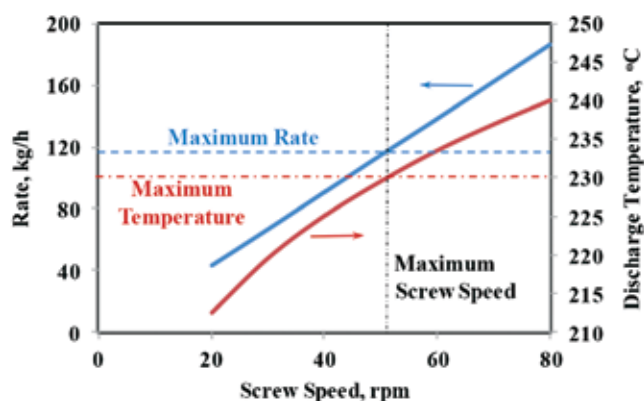

Figure 1. Rate and discharge temperature for a 100 mm diameter screw with a metering channel depth of 5.5 mm.
Most processors operate their lines at the maximum extrudate temperature that is acceptable for the downstream film (or pipe) process. For example, a processor would increase the screw speed and rate until the extrudate temperature increases to a point where the downstream section of the process is unstable. For these cases, the discharge temperature and rate increase with increasing screw speed as shown in Figure 1. For a blown film line, the bubble would become unstable at discharge temperatures exceeding about 230°C. For a 100 mm diameter screw with a metering channel depth of 5.5 mm, the maximum screw speed is 50 rpm for a maximum rate of 115 kg/h and discharge temperature of 230°C, as shown in Figure 1 for a 1.0 melt index (MI) PE resin.